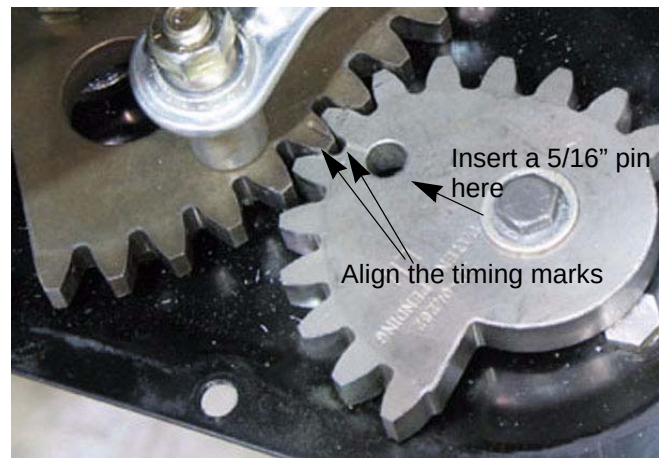

Figure 6.7
2. Align the marks on the axle gear and the steering gear for both wheels. See Figure 6.7.